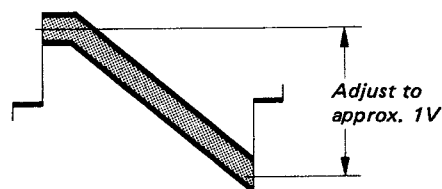

Fig. 5-106.
5. Set the signal generator to the 20% position, and adjust the output LEVEL knob so that the oscilloscope output waveform is 1V. (See Fig. 5-106)